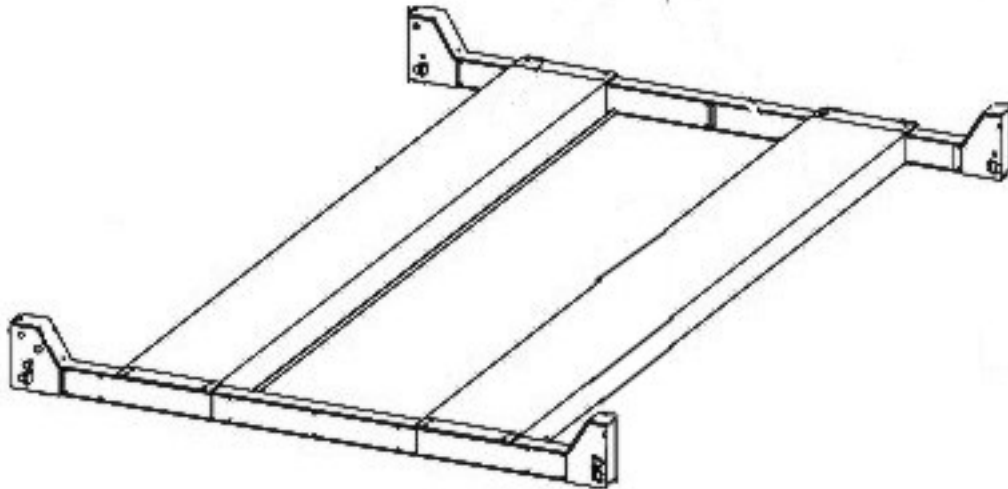

Figure 2-4. Positioning of Runways and Crossbeams
4. Place front and rear crossbeams on each ends of the runways. The runways and crossbeams should be laid out as shown in figure 2-4. Do not attach at this time.
2. Secure the column to the foundation as follows (refer to figure 2-4):